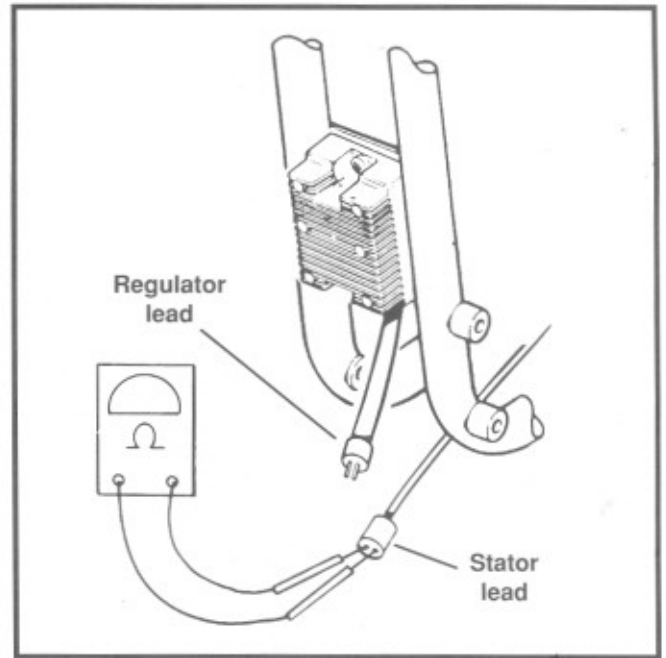

Figure 7-45. Check for Stator Resistance
3. See Figure 7-45. Check the resistance using an ohmmeter set on the RX1 scale. Resistance across the stator sockets or pins should be 0.2-0.4 ohms. If the resistance is lower, the stator is damaged and must be replaced.